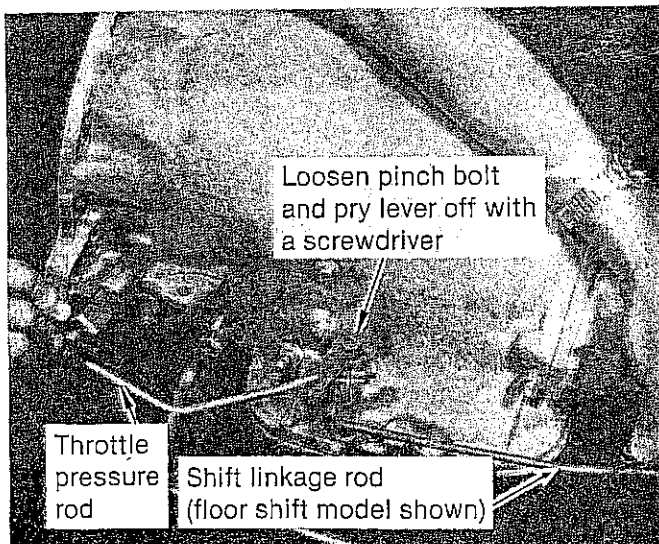

FIGURE 3
**STEP 4.** Disconnect throttle linkage lever by loosening the pinch bolt on lever and prying lever off shaft. Allow throttle linkage to hang free. (See Fig. 3)